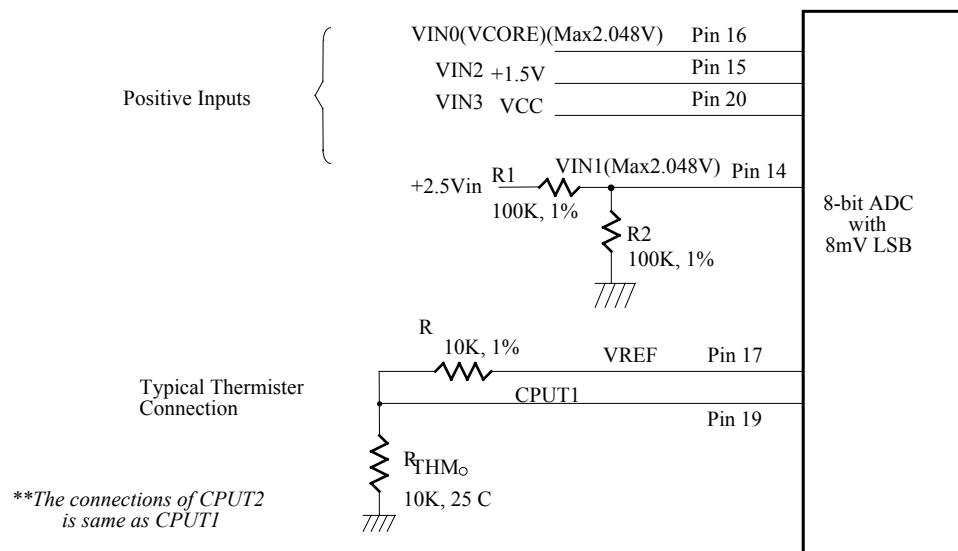

Figure. 3.
The maximum input voltage of the analog pin is 2.048V because the 8-bit ADC has the 8mV LSB. Actually, the application of the voltage monitoring would most often be connected to power suppliers. The +1.5V voltage can directly connected to these analog inputs. The +2.5V and CPU VORE, the inputs higher than 2.048V, should be reduced a factor with external resistors so as to obtain the input range. As Figure 3 shows.
The W83L785R can connect two thermistors to measure three different environment temperature or remote temperature. The specification of thermistor should be considered to (1) β value is 3435K, (2) resistor value is 10K ohms at 25°C. In the Figure 3, the themistor is connected by a serial resistor with 10K Ohms, then connect to VREF (pin 17).